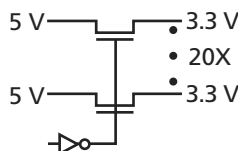

Figure 2-4 • Bus Switch IDTQS32X2384
2. 5 V tolerance can also be achieved with 3.3 V I/O standards (3.3 V PCI, 3.3 V PCI-X, and LVTTTL) using a bus-switch product (e.g. IDTQS32X2384). This will convert the 5 V signal to a 3.3 V signal with minimum delay (Figure 2-4).